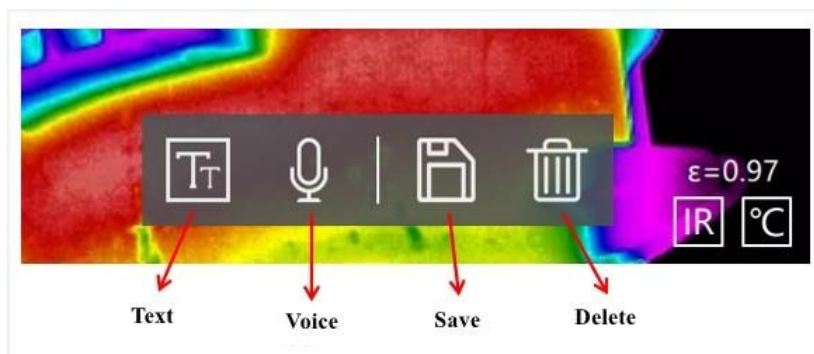

Figure 4.16 Capture Settings
Step 6: After the setting is complete, touch the trigger once to enter the capture state, and long press the trigger to enter the recording mode (as shown in Figure 4.16). Text (T): can add text remarks to a captured image. Voice (🎤) : can add voice notes to captured images. Save (💾) : make sure to save the current snapshot and its remarks; Delete (🗑️) : delete the current snapshot and its remarks.